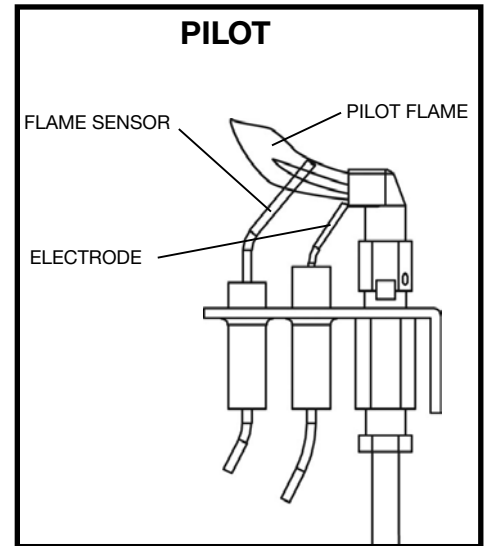

Figure 77: Pilot assembly.
- B) Check the pilot system for proper flame size and operation. Clean pilot free of soot, dust or any other deposits (Figure 77)